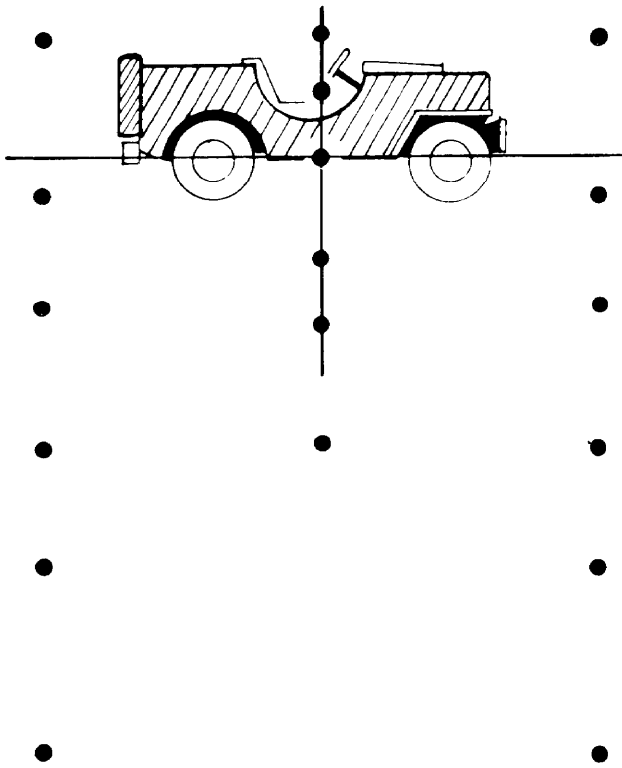
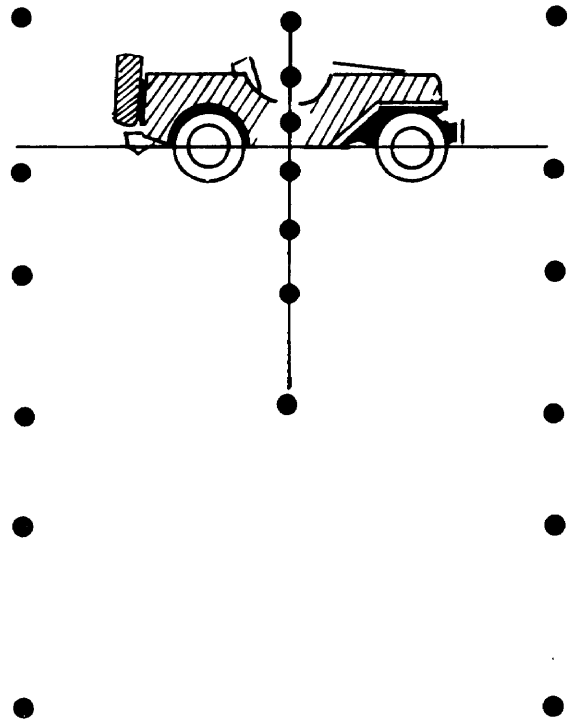

Figure 14. Sight picture (400 meters), caliber .50 machinegun.
Figure 15. Sight picture (500 meters), caliber .50 machinegun.
- (1) To aim for range, select the correct range segment of the vertical line on the reticle and place it at the center base of the target. Figure 14 depicts a vehicle at a range of 400 meters with the correct sight picture. Since the reticle dots are placed in 200-meter intervals, engagement of targets at other ranges requires interpolation. For example, a target at a range of 500 meters would be engaged as depicted in figure 15.
- (2) The reticle dots of the Sight are not numbered; therefore, the gunner must remember their value and then lay on various targets. To develop skill in the proper selection of range dots and correct sight picture, preparatory sighting exercises must be conducted. The first sighting and aiming exercises may be conducted in classroom or training areas under daylight or night conditions. To conduct these exercises, mount the gun and Sight on the tripod mount and place a target at any range (at night any visible range) in front of the gun. During daylight